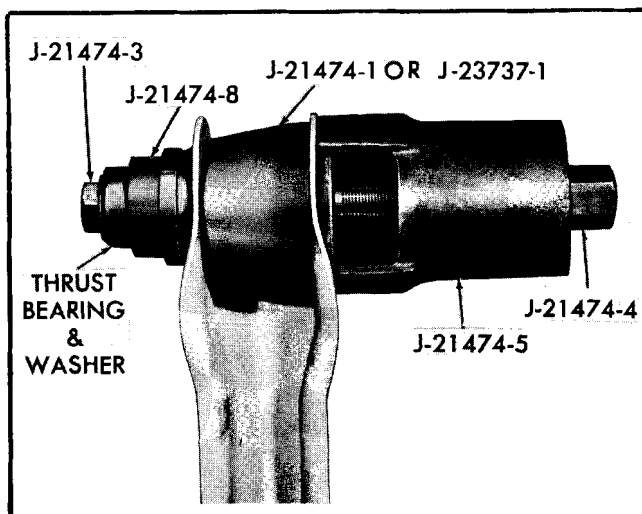

Fig. 4-32 Removing Upper or Lower Control Arm Bushing (Coil Spring Suspension)
2. Arrange tools as shown in Fig. 4-32 and press bushing from control arm.
2. Remove bushing using components of tool J 21474 as shown in Fig. 4-32.